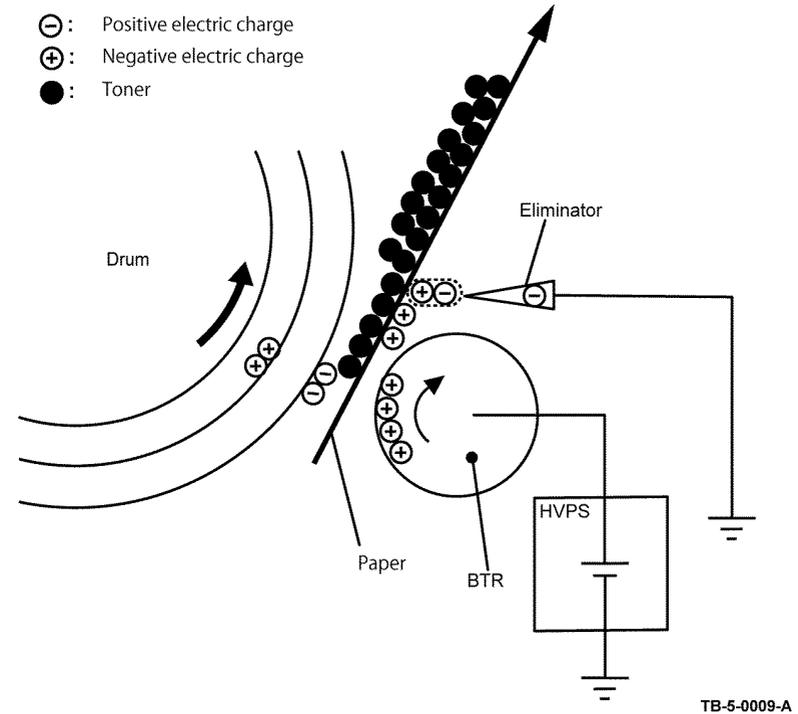

Figure 9 Neutralization/removal
- The eliminator neutralizes the charge to prevent the toner on the paper from spreading over the surrounding metal surfaces. The eliminator is a metal sheet that is held at the ground level. It neutralizes the positive charge applied during the transfer process by applying negative charge to the backside of the paper. Refer to Figure 9.